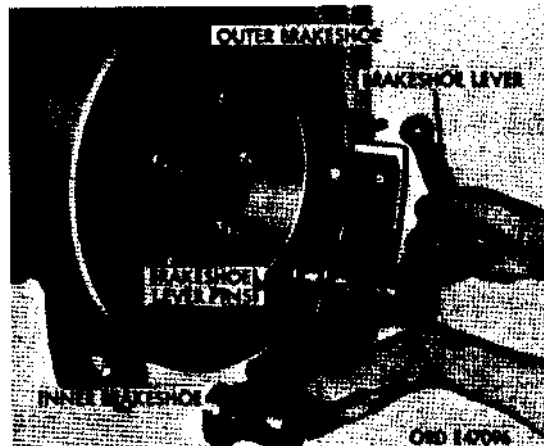

Figure 306. Removing hand brakeshoe and lever assembly
- (5) Spread inner and outer shoes (fig. 306), and remove shoe and lever assembly from brakedrum.
- (6) Remove C-washer from front end of two brakeshoe-lever pins (fig. 306), and remove inner and outer shoes from pins.
- (1) Position inner and outer brakeshoes (fig. 306) on brakeshoe-lever pins, and install C-washer at front end of both pins.